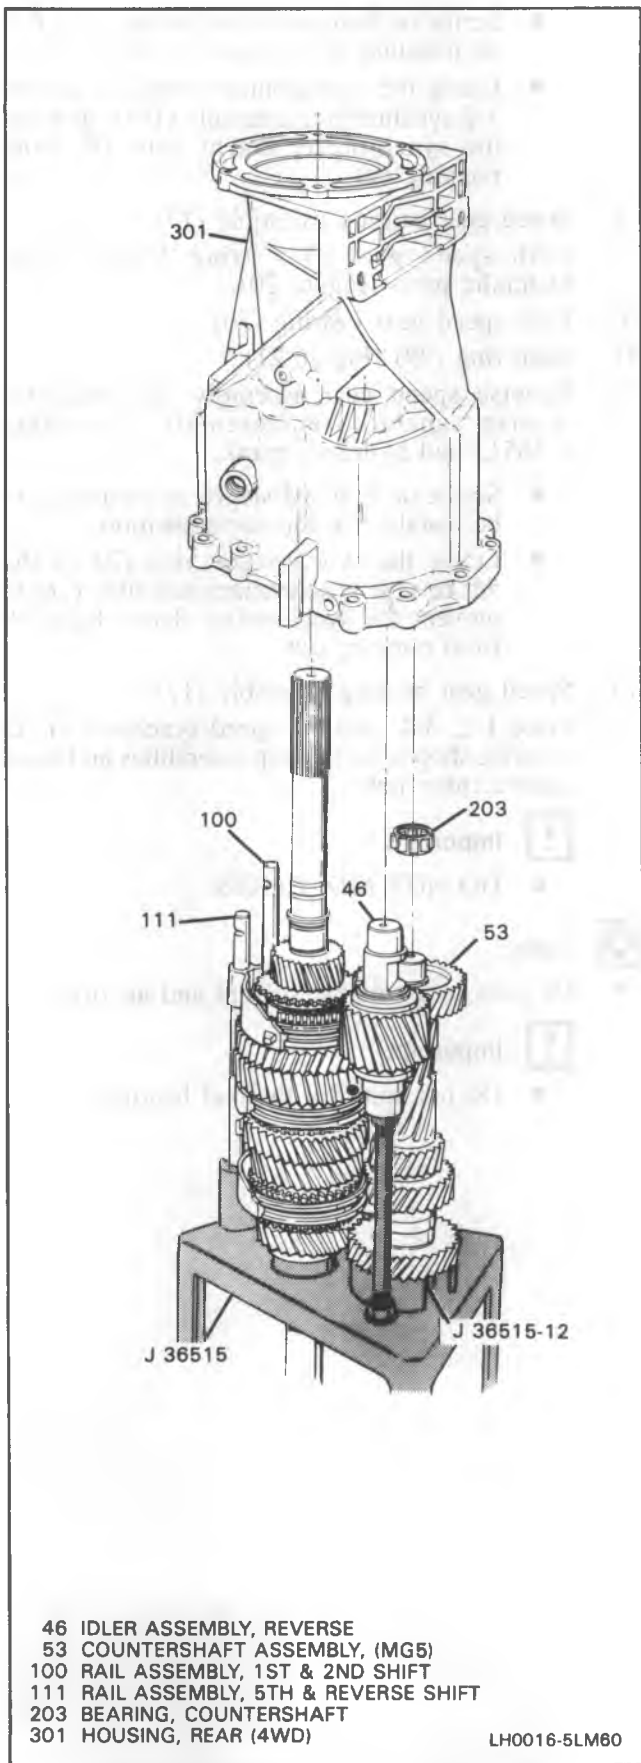

Figure 15 Removing 4WD Rear Housing
29. 4WD Rear Housing Assembly (301) and bearing (203) (Figure 15).